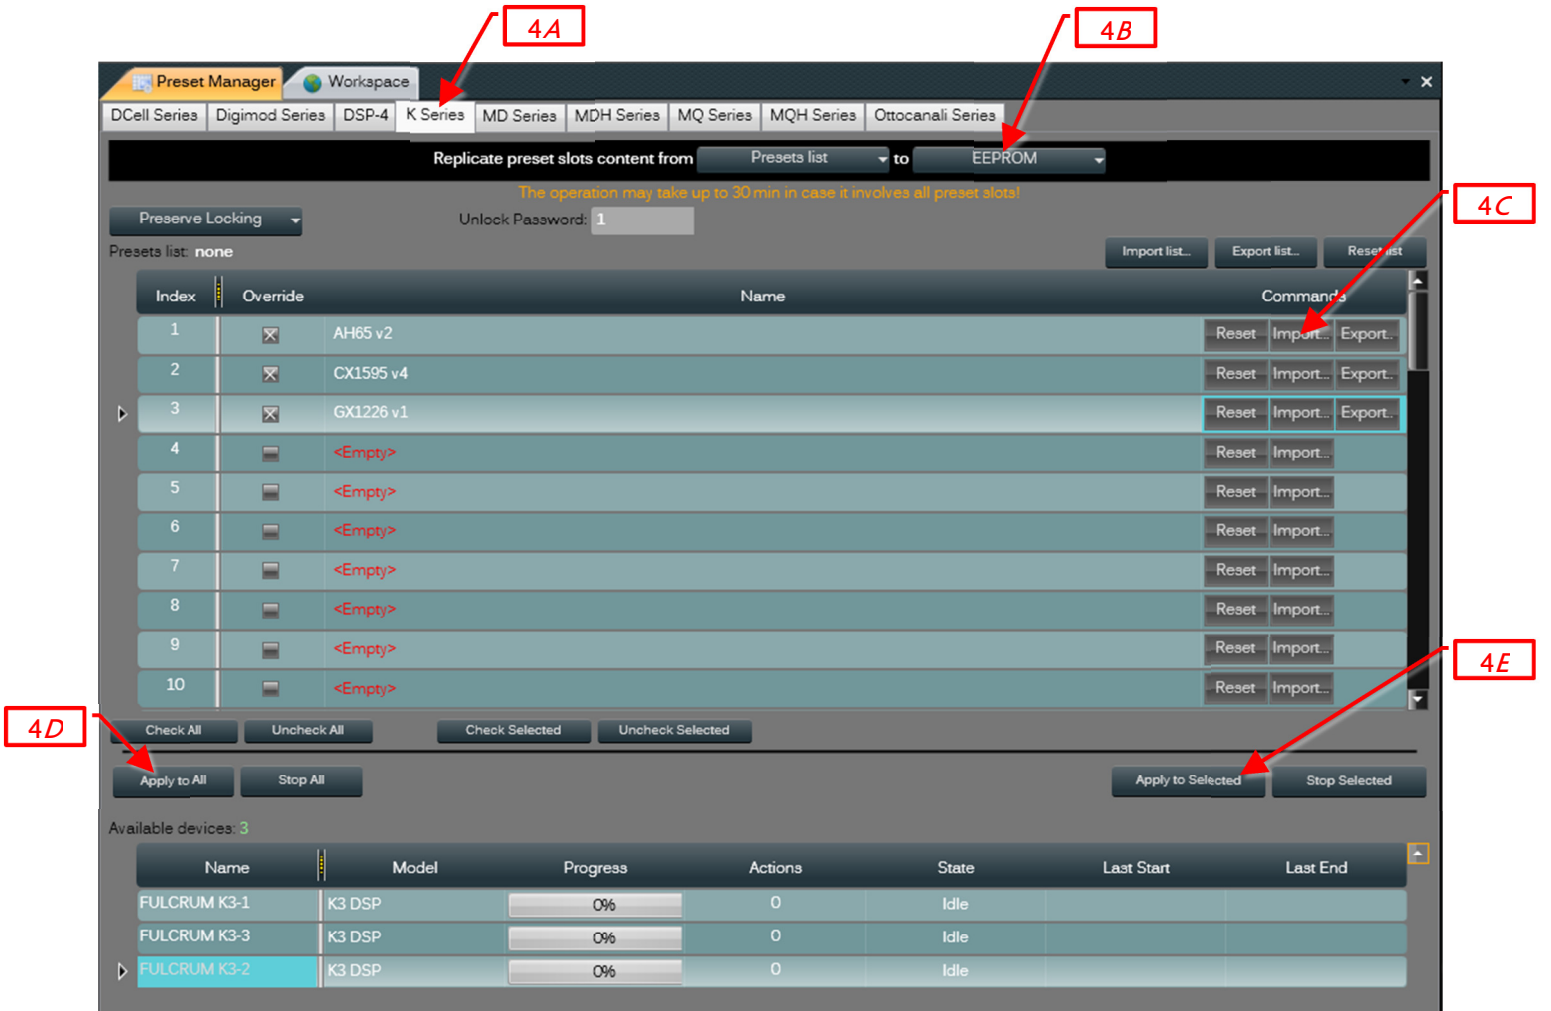

Figure 2
- 4) See *Figure 2* on the following page. Click the *Preset Manager* tab at the top of the screen.
- E) Alternatively select and highlight a specific amplifier in the list and click the *Apply to Selected* button at the top right side of the list. The amplifier "FULCRUM K3-2" is selected in the example shown in *Figure 2*.